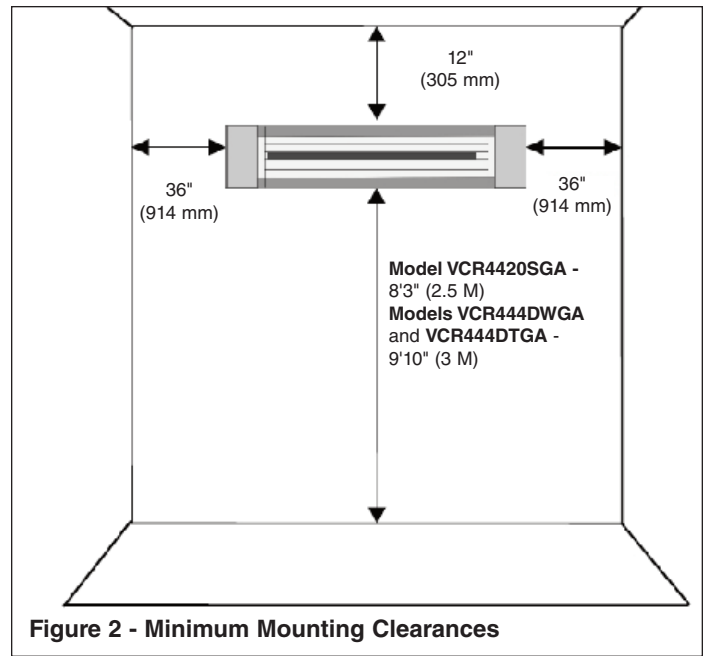
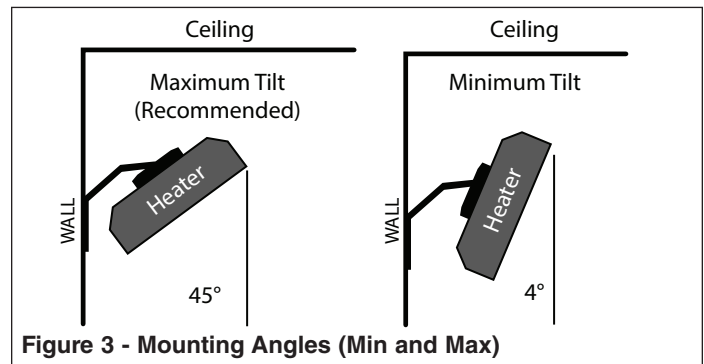

Figure 2 - Minimum Mounting Clearances
Figure 3 - Mounting Angles (Min and Max)
8. To prevent a fire, use care to never block heater and maintain required clearances. See Fig. 2.
THIS HEATER OPERATES AT HIGH TEMPERATURES AND WILL DAMAGE MATERIALS (SUCH AS VINYL SIDING, PLASTICS OR FABRICS) IF THESE TYPE MATERIALS ARE PLACED TOO CLOSE TO HEATER OR IF HEATER IS NOT INSTALLED PER THESE INSTRUCTIONS. REFER TO FIGS 2 AND 3 FOR CLEARANCE AND MOUNTING INSTRUCTIONS.
- This heater is intended for wall mounting only using wall bracket provided with heater - See Fig. 1. See Fig. 2 for Minimum Mounting Clearances and Fig. 3 for mounting instructions..
- Heater bracket will allow the heater mounting angle to be adjusted from approximately 4°- 45° from vertical. The optimum angle is 45° - see Fig. 3